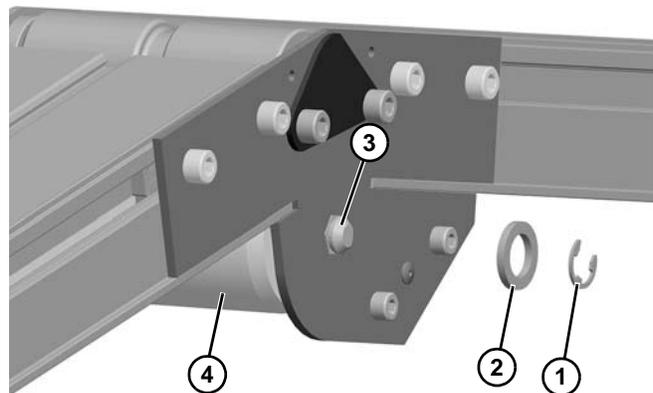

Figure 66
- a. For 2" (44 mm) through 4" (95 mm) wide conveyors, remove E-ring clip (**Figure 66, item 1**) and washer (**Figure 66, item 2**) from one side. Remove pulley shaft (**Figure 66, item 3**) and pulley (**Figure 66, item 4**).